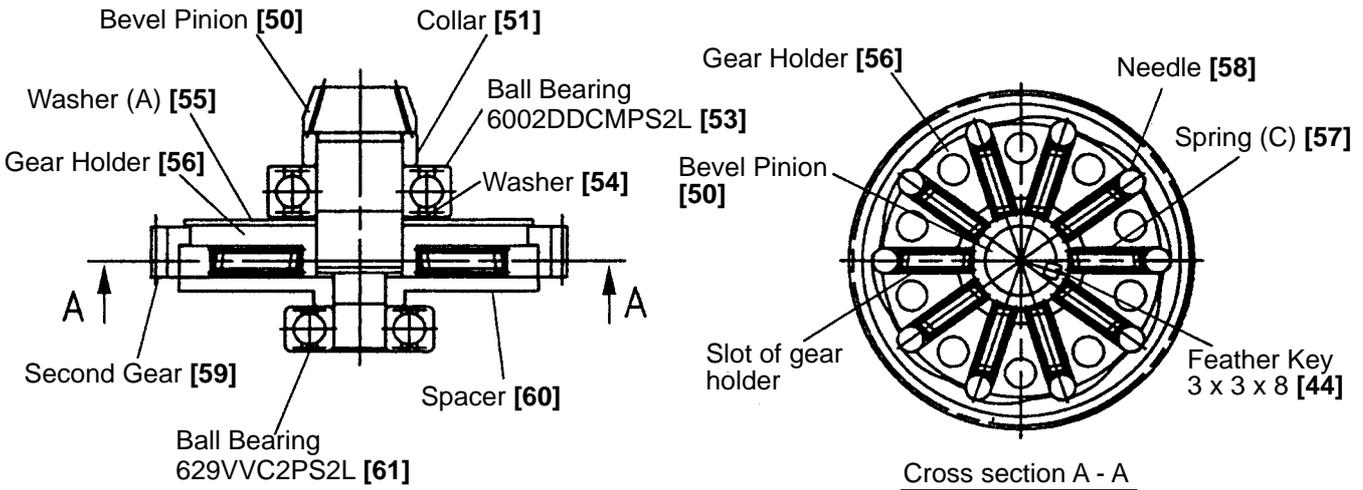

Fig. 23
(4) Reassembly of the slip clutch
Press-fit the Bevel Pinion [50] into the Collar [51] and the Ball Bearing 6002DDCMPS2L [53] then insert it into the Washer [54] and Washer (A) [55]. Mount the Feather Key 3 x 3 x 8 [44] to the Bevel Pinion [50] then press-fit into the Gear Holder [56]. Mount the Second Gear [59] around the outer circumference of the Gear Holder [56]. Before mounting, apply Hitachi Motor Grease No. 29 to the inner circumference of the Second Gear [59]. Insert the ten Needles [58] being careful not to incline them, then push in ten Springs (C) [57] as shown in Fig. 23. Fill the slots and the through holes of the Gear Holder [56] with Hitachi Motor Grease No. 29. Press-fit the Bevel Pinion [50] into the Spacer [60] and the Ball Bearing 629VVC2PS2L [61].